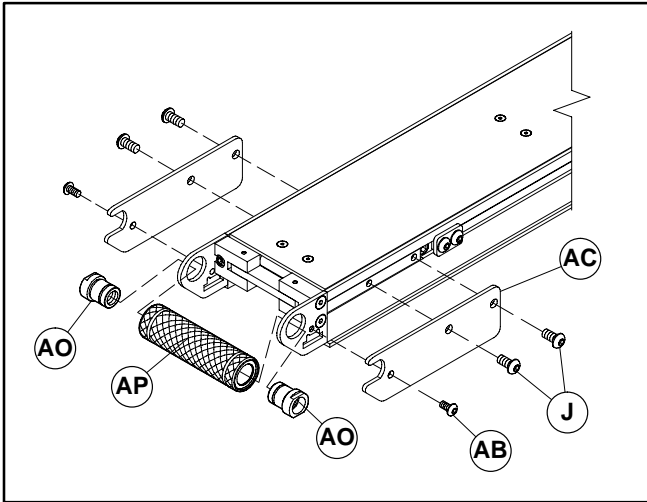
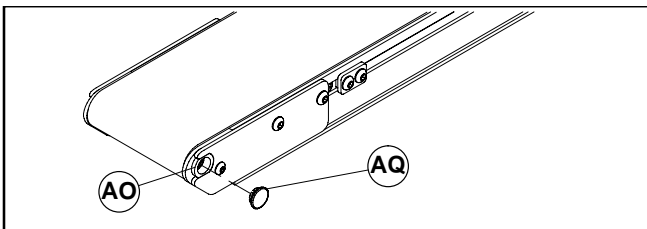
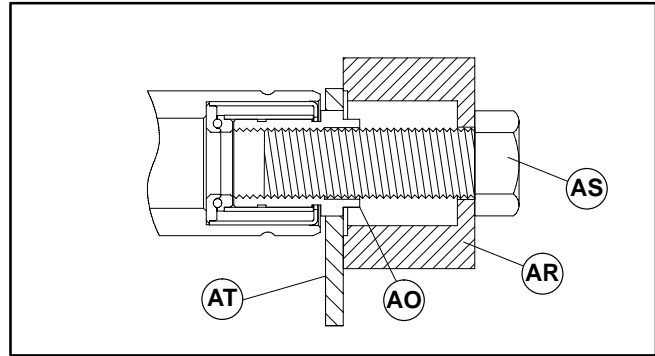

Figure 17
Figure 18
Figure 19
2. Remove tail cover plate screws (J and AB of Figure 17) and tail cover plates (AC) on both sides of the conveyor.
3. Remove the retaining sleeves (AO) and pulley (AP). If retaining sleeves are frozen, continue with the next step.
4. All non-driven positions have a plastic plug (AQ of Figure 18) installed into ends of pulley retaining sleeves (AO). Use a small flat screwdriver to remove these plugs.
5. Position bearing anvil/sleeve removal tool (AR of Figure 19), part number ☆25-09, over retaining sleeve (AO of Figures 17 and 19).
6. Insert special threaded bolt (AS of Figure 19), part number ☆906-278, through bearing anvil/sleeve removal tool (AR) and thread into retaining sleeve (AO).
7. Tighten bolt (AS) until retaining sleeve (AO) is free of spindle tail plate (AT).
8. Remove retaining sleeve (AT) from the bolt (AS).
10. Remove pulley (AR) from conveyor frame.
1. Insert pulley (AP of Figure 17) between the spindle tail plates (AT).
2. Slide the retaining sleeves (AO) through openings in the spindle tail plates and into the pulley on each side.
3. Install the plastic plug (AQ of Figure 18) into the ends of the pulley retaining sleeves (AO).
4. Secure the tail cover plates (AC of Figure 17) to the conveyor with screws (J and AB).
4. Support pulley end (BA) with bearing anvil/sleeve removal tool (AR of Figures 19 and 22), part number ☆25-09. Using an arbor press, push bearing (AY) out of the pulley into bearing anvil/sleeve removal tool (AR).